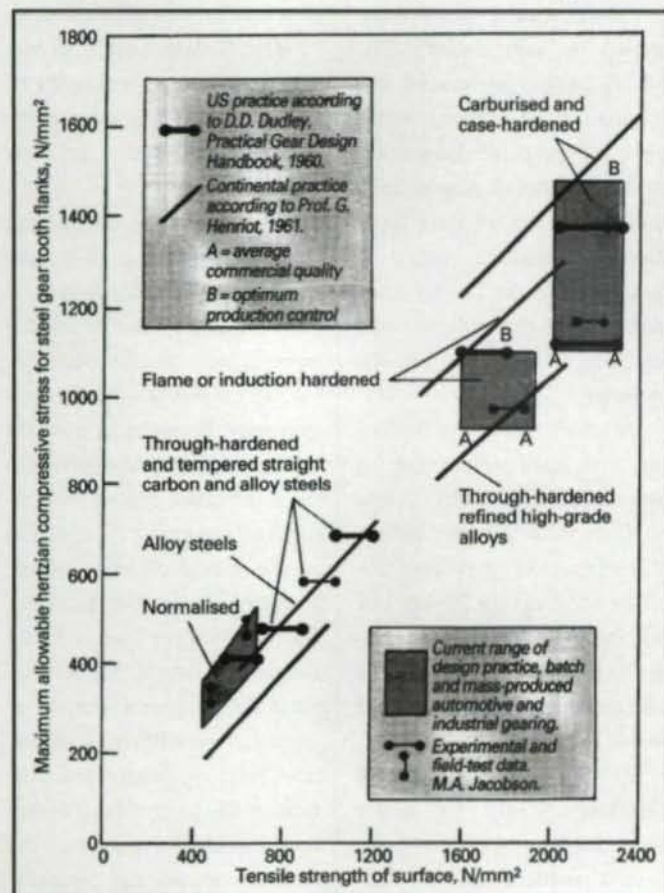

Fig. 14—The contact fatigue strength of gears. After Jacobson.⁽⁸⁾
5) **Contact fatigue.** A surface's contact fatigue strength is related to its tensile strength and the surface material's hardness. Contact fatigue tests using discs and having no intentional sliding suggested that induction hardened surfaces had pitting fatigue strengths of about 80% of that of carburized and hardened surfaces (Fig. 14). Winter and Weiss confirmed that observation (Ref. 3). With actual gear tests, they concluded that induction hardened gears had 85% of the contact fatigue strengths of their case hardened counterparts. Their recommen-